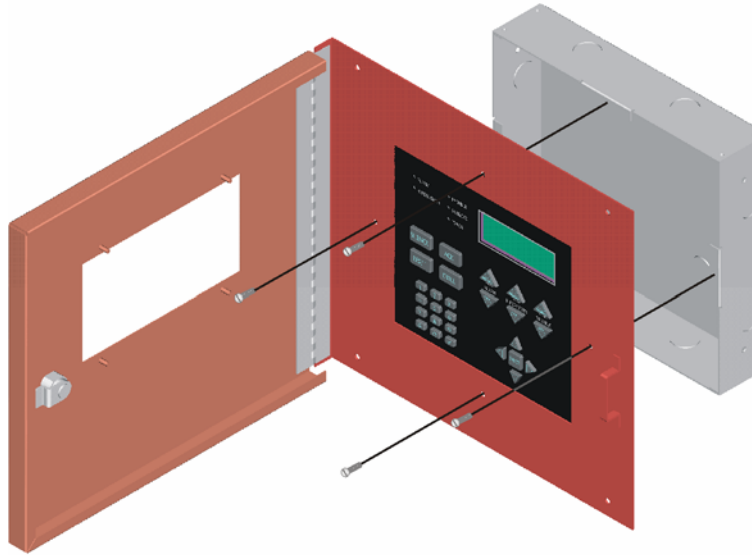

Figure 4.18 Attaching Annunciator/Door Assembly to Backbox
4. Attach the annunciator and door assembly to back box as shown in Figure 4.18 using the supplied screws.